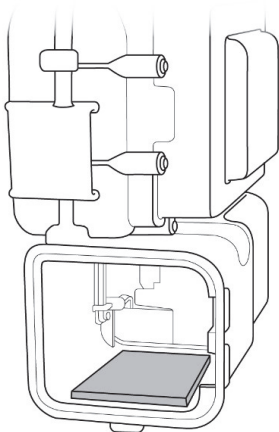

Fig. 3a – Battery Support Foam Installed
4. **FIRST USE ONLY:** If Battery Support Foam does not come installed in battery compartment, remove paper backing from Battery Support Foam, exposing adhesive. Place Battery Support Foam (adhesive side down) on battery compartment floor (Fig. 3a).